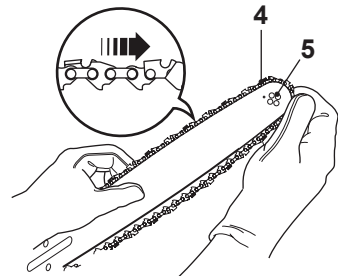

Fig. 2
- > Spread the saw chain (4) out with the cutting edges of the chain pointing in the rotational direction and slide the chain into the groove around the guide bar (Fig. 2).